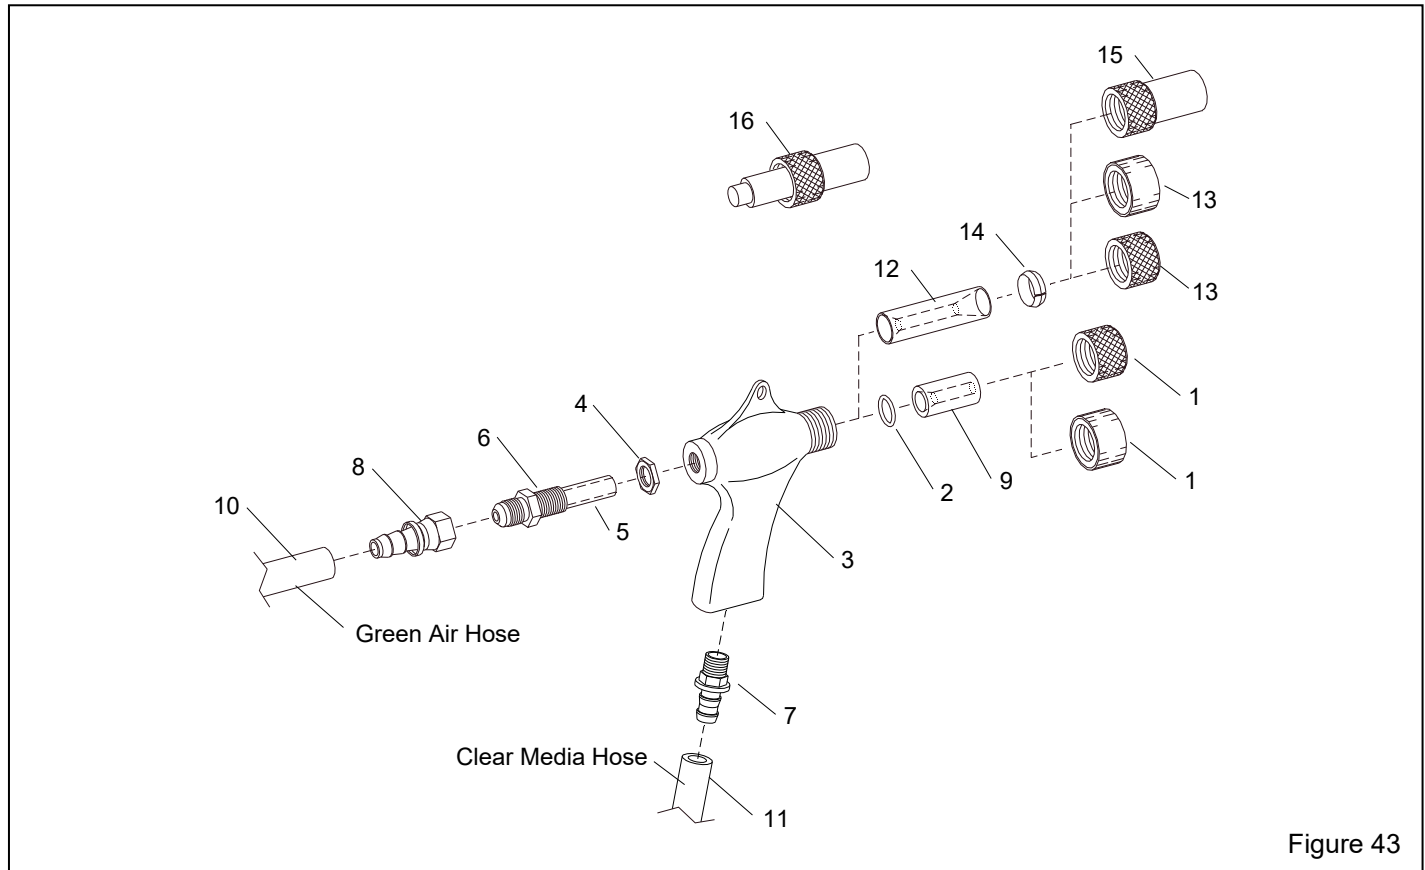

Figure 43
9.2 BNP® Gun and Feed Assembly – Figure 43